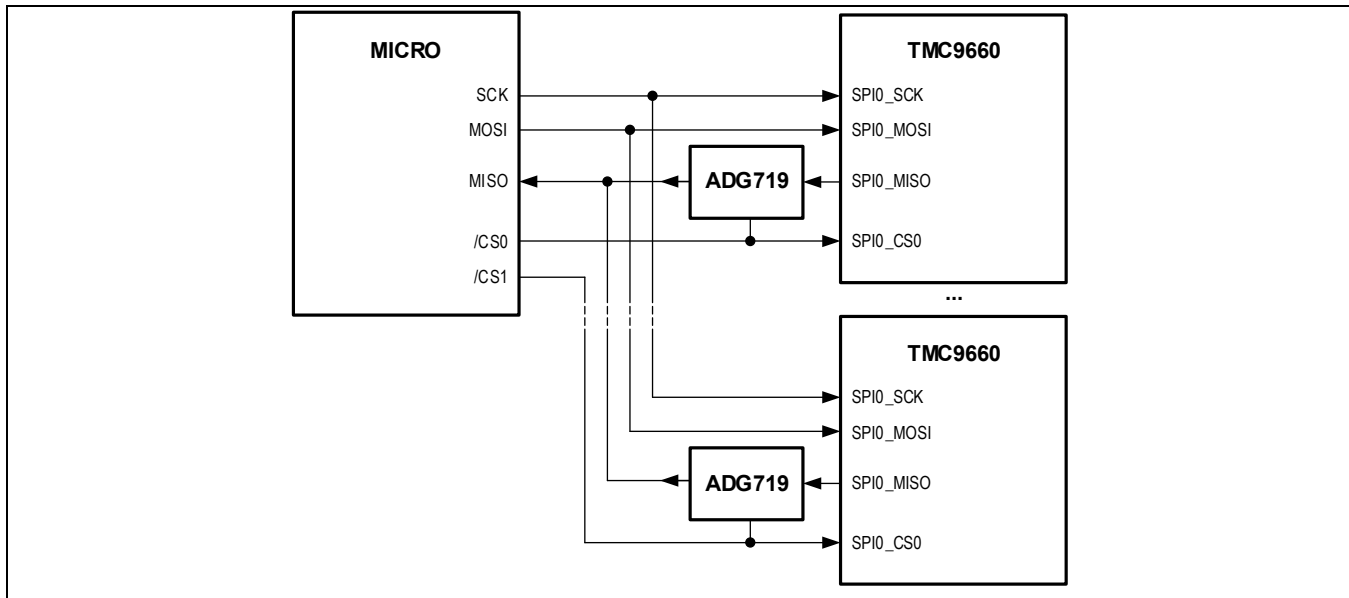

Figure 46. SPI Subordinate Operation, Workaround with External Component
2. Add an external component to the board design to ensure the MISO line is disconnected when the chip select signal is de-asserted. See example using an ADG719 switch in Figure 46.